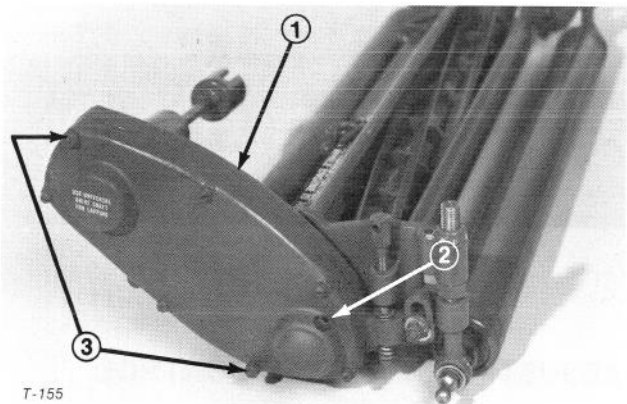
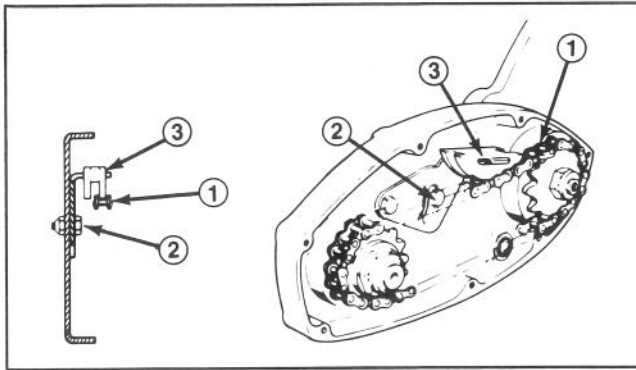

Figure 40
Figure 41
Once each year, check the chain assembly inside the cutting unit chain case (Fig. 40). Use the following procedures:
2. Remove Allen head set screw anchoring steel shaft to cover (Fig. 40).
3. Remove (5) cover screws and (2) tapered nuts and remove cover (Fig. 40).
4. Check chain for excess slack (Fig. 41). If chain is too slack, loosen mounting screw for chain idler shoe, push down against chain to remove slack and tighten screw (Fig. 41).
5. Make sure a liberal quantity of lithium base No.2 grease is around sprocket and install cover (Fig. 41). Install tapered nuts first to make sure cover is aligned with the case (Fig. 40).